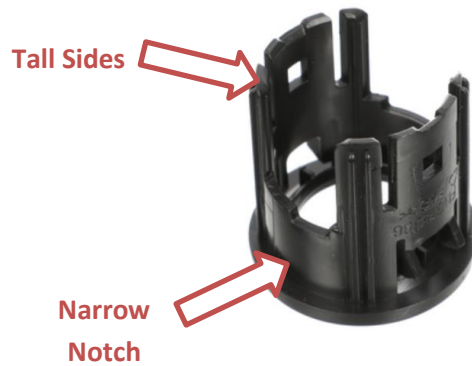

Figure 5
20. If your truck is equipped with factory parking sensors, remove the bezels from your stock bumper and install them into the MOD bumper. Ensure to orient the bezels with the Tall sides facing up/down, and the Narrow Notch facing towards the outside of the vehicle, ie: on the left two holes the narrow notch faces left, on the right holes it faces right, as indicated in **Figure 5**.